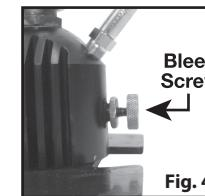

Fig. 4
8. Make certain the bleed valve on the hand pump is fully closed (tighten in a clockwise direction) (Fig. 4).
12. BLEED the fill hose COMPLETELY to avoid hose whip from pressure in the fill hose (Fig. 4).